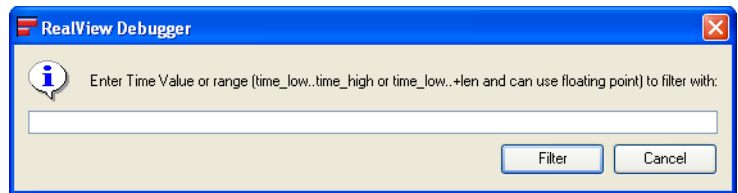

Figure 9-13 Filtering on a time match
1. Select **Filter on Timestamp...** from the **Filter** menu to display the Prompt dialog box. Figure 9-13 shows an example: